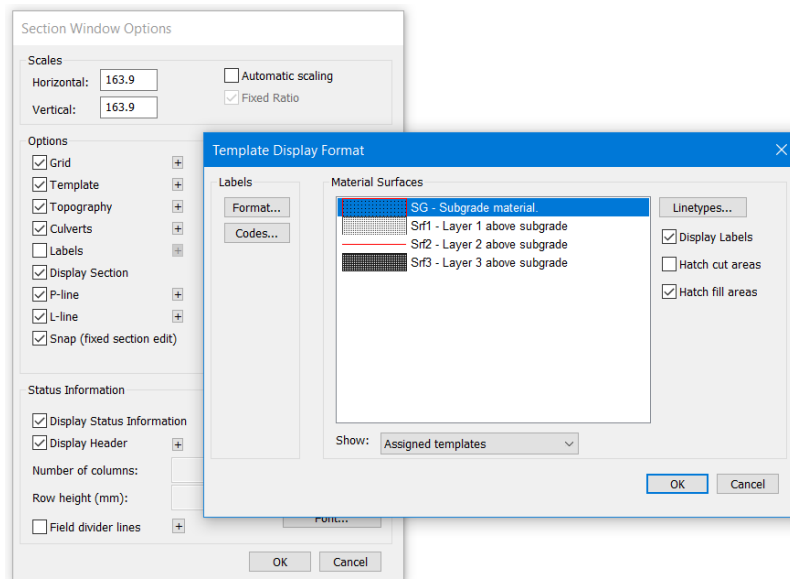

Figure 21-3: Section Window Options and The *Template Display Format* Dialogue
4. Click on the button beside the *Template* check box to open the Template Display Format dialogue box (Figure 21-3).